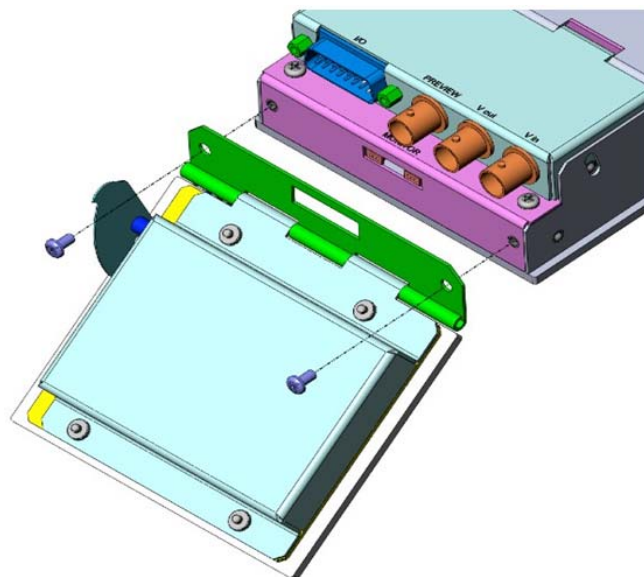

Fig. 3-6: CHRCP-LCD1 Installation Step #1
- 1 Attach the LCD panel to the rear of the Control Panel using the two supplied screws (Figure 3-6).